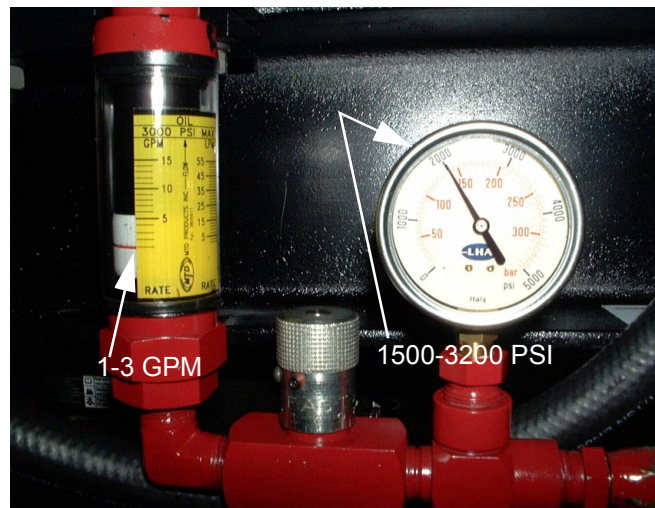

Figure 1
1. Continue to close the needle valve slowly until the flow gauge reads approximately 1 GPM. \_\_\_\_ See Figure 1.